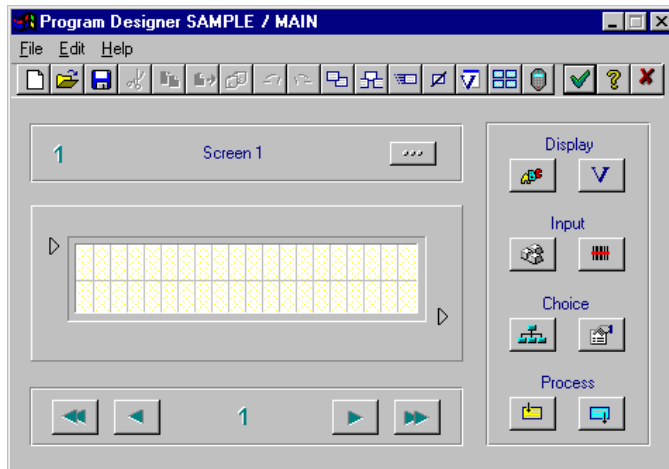

Figure 2-13. Program Designer Window
2. Click on the *Main Program* button for the first Program (1). The Program Designer window (Figure 2-13) appears.